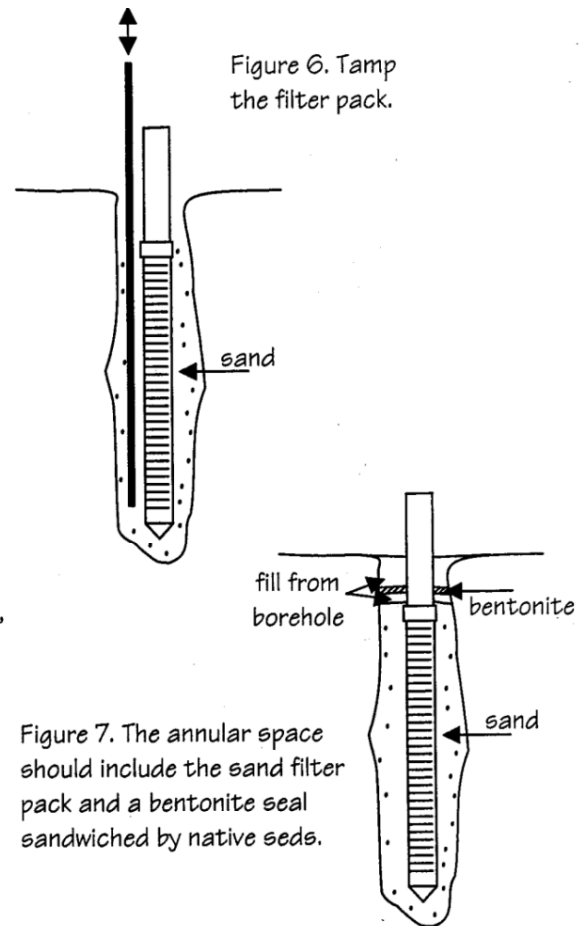

Figure 7. The annular space should include the sand filter pack and a bentonite seal sandwiched by native sed.
- Next, fill and pack with some of the extracted bosque sediments to within ~10 cm of the ground surface, then add a thin layer (~2-3 cm thick) of bentonite around the casing (Fig. 7). Pour a couple of bailers' worth of water onto the bentonite and allow to soak in. Fill the remainder of the hole with more of the extracted sediments and pack tightly around the base of the well with a short blunt object, e.g. the end of a hammer or wrench. Don't use the long rod, which could trash your bentonite layer.